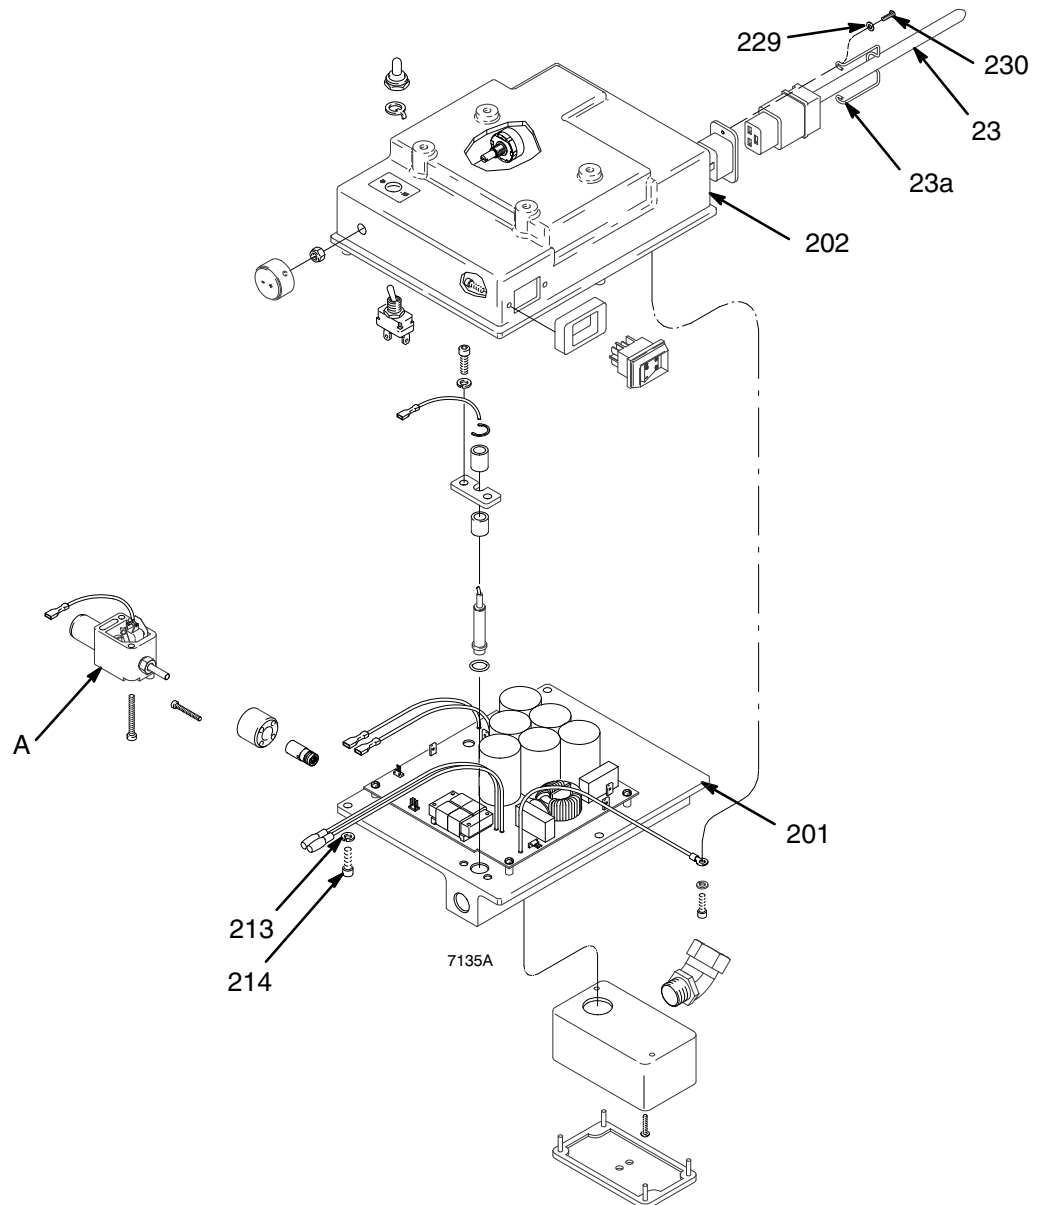

Fig 16
2. Remove power cord (23) and plug retainer (23a) by removing screws (230) and washers (229).
3. Remove screws (213) and lockwashers (214). Carefully remove control housing (202) from control motor board (201) so internal wiring is not damaged. Lay housing on side next to control motor board. See Fig. 16 and parts list.